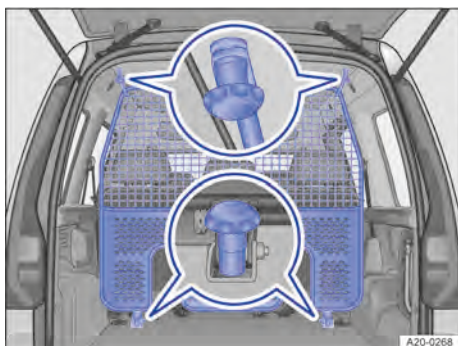

Fig. 136 In the load compartment: partition grille behind the second row of seats.
3. Screw the partition grille tight at the rear mounting points in the roof → Fig. 136.
4. Screw the partition grille tight at the lower anchor points → Fig. 136.
3. Screw the partition grille tight at the front mounting points in the roof → Fig. 136.
1. Unscrew the partition grille at the lower anchor points → Fig. 136.
2. Unscrew the partition grille at the mountings in the roof → Fig. 136.